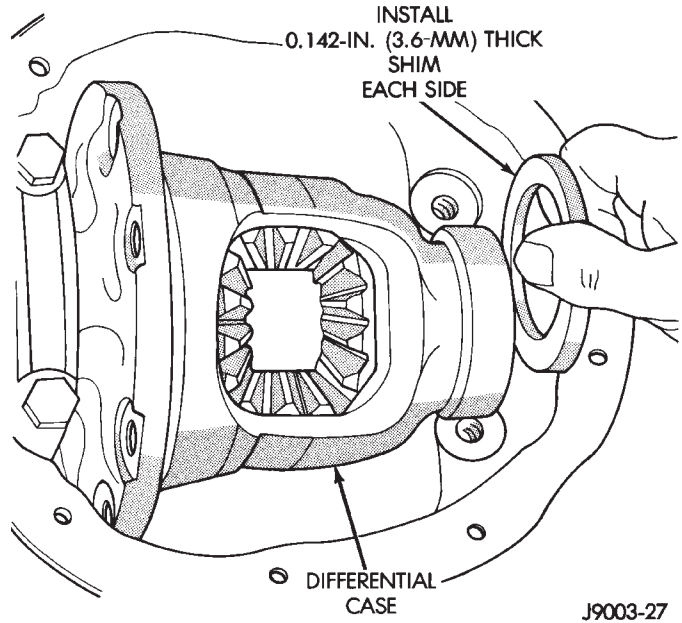
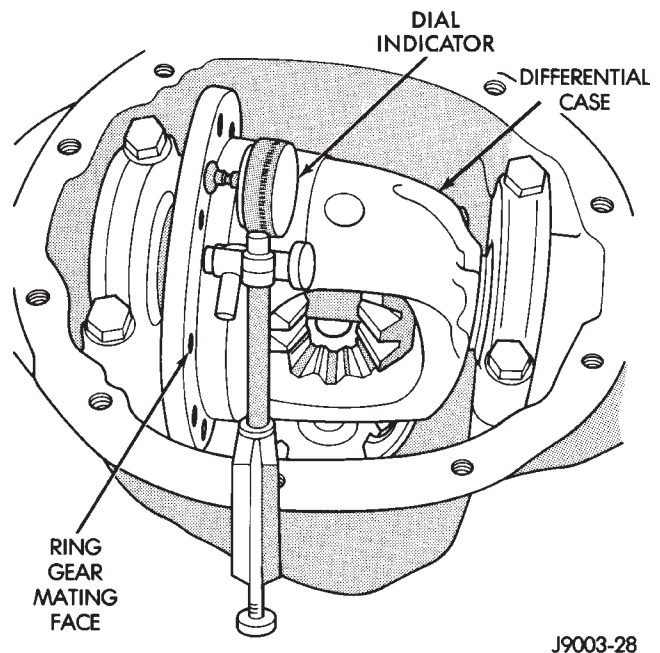

Fig. 61 Differential Bearing Shim Installation
Fig. 62 Shim Measurement
- (1) Install dummy side bearings 6929 on differential.
- (2) Install the differential case in the axle housing.
- (3) Install the outboard shim/spacer (selected thickness) on each side between bearing cup and housing (Fig. 61). Use 0.142 in. (3.6 mm) as a starting point, shim/spacers are available in various thicknesses.
- (4) Install the marked bearing caps in their correct positions. Install and snug the bolts.
- (5) Attach a dial indicator to the housing. Position the indicator plunger so that it contacts the ring gear mating surface (Fig. 62).